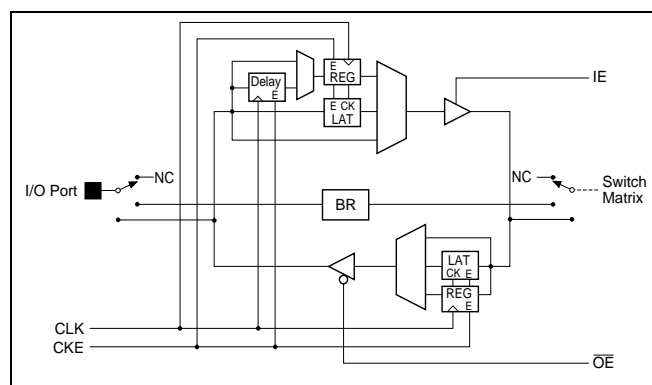

Figure 4. Programmable I/O Port
Each signal line in the Switch Matrix is connected to a programmable I/O Port. The functional attributes of individual I/O Ports can be programmed independently. The I/O Port attributes include its signal direction (in, out or bidirectional), data flow mode (flow-through, registered or latched), and pull-up current. Figure 4 shows the structure of the programmable I/O Port. The sources for the four control signals: clock (CLK), clock enable (CKE), input enable (IE), and output enable (OE) are also programmable and are described later in the section "I/O Control Signals."